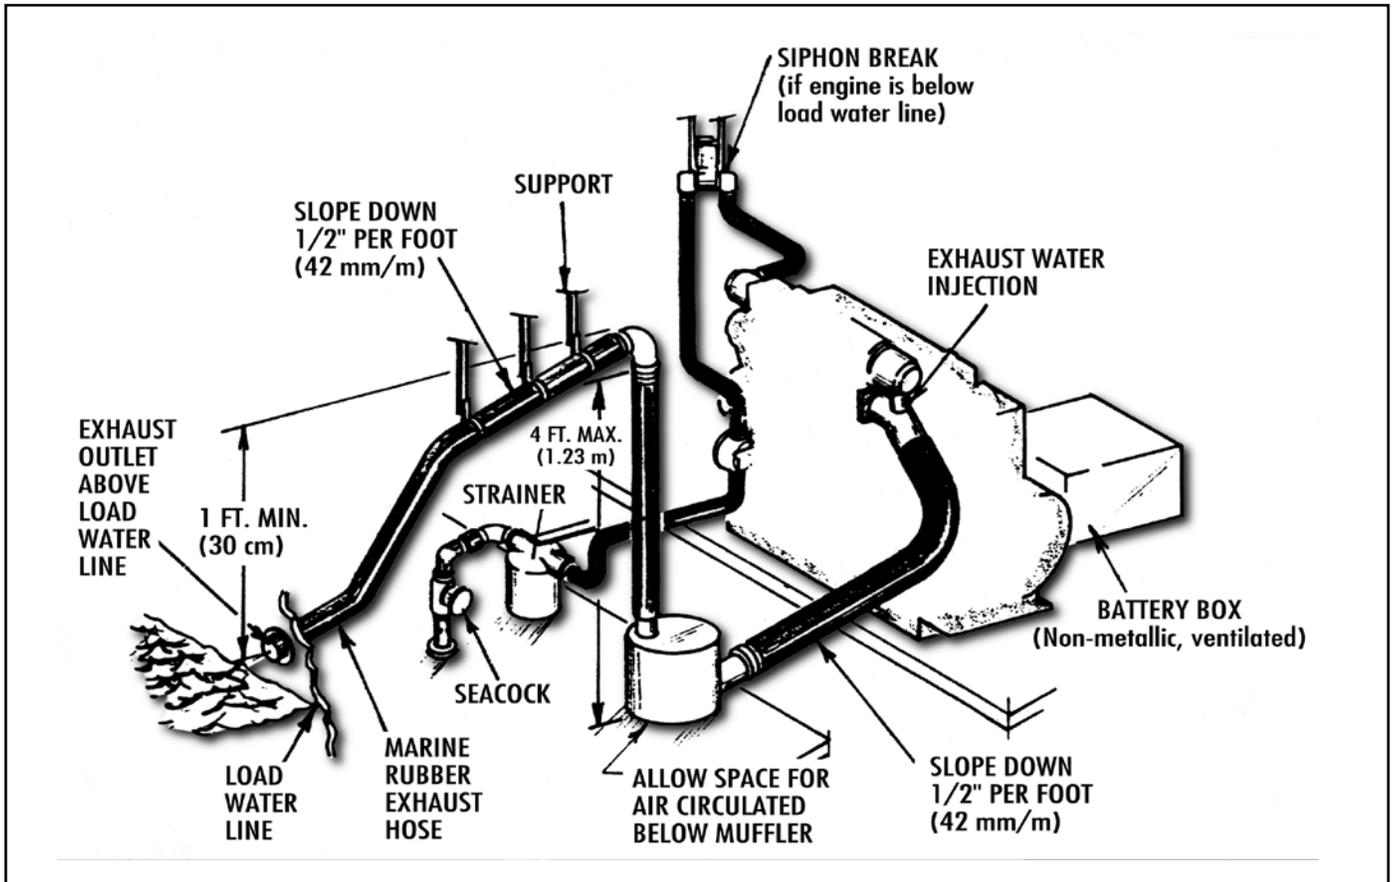

Figure 1. Properly installed wet exhaust system.
Before you install your new generator, you must decide whether a dry or wet exhaust system is best suited to your boat. In a dry system, exhaust gases are simply vented to the outside through an insulated pipe. A wet system is more complicated, because exhaust gases are cooled by water before they leave the boat. Plumbing a wet exhaust system incorrectly is a major cause of generator set failure (see Fig. 1).
4. Maintain a slope of 1/2" per foot in your exhaust lines from the manifold to the muffler (Fig. 1-A) and from exhaust loop to outlet (Fig. 1-B) to ensure proper drainage.